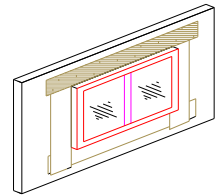

Figure 6
10. Finally, at the window head, embed the flashing into the sealant on the mounting flange and fasten into place. The flashing paper should be cut sufficiently long enough to extend past the flashing paper at each jamb by at least 3 inches. (See Fig. 6).